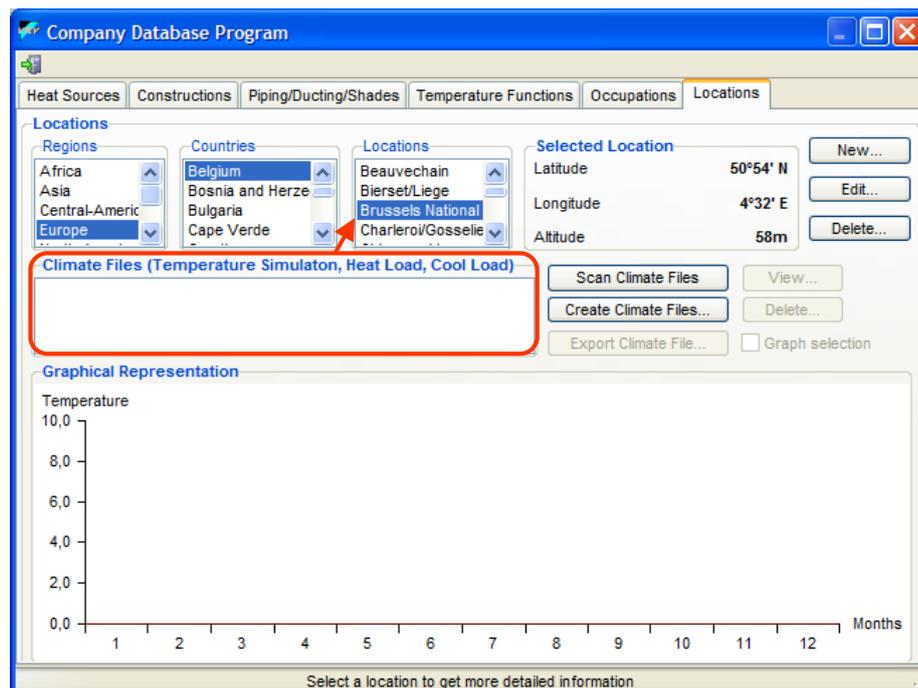
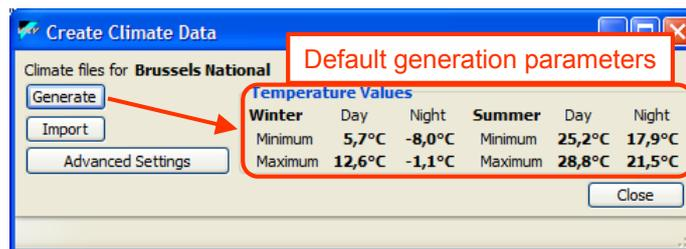
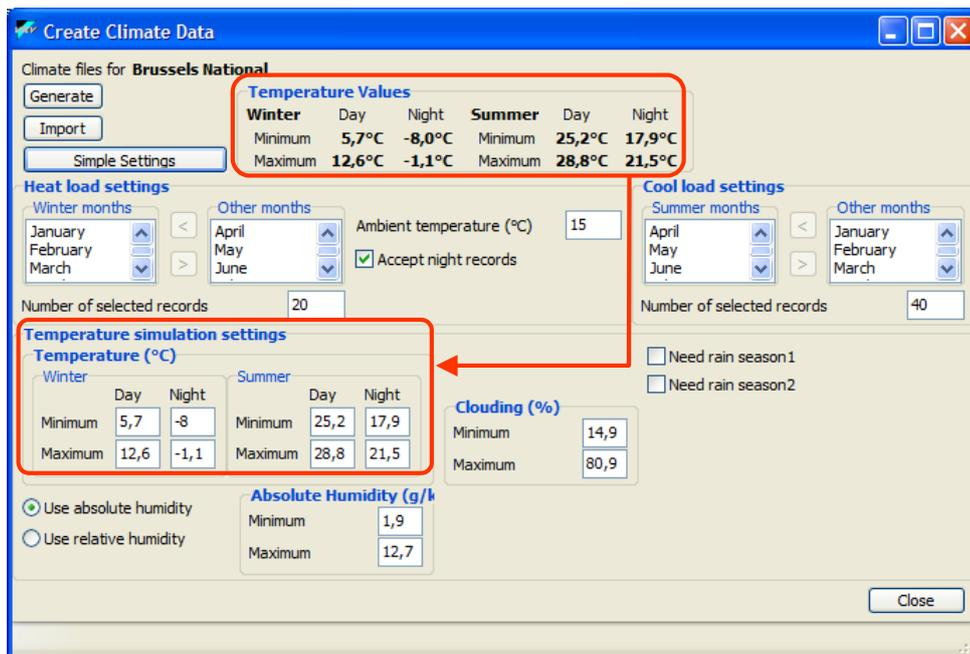

Figure 150: Climate files are associated to a location
Figure 151: Default generation parameters associated to a location
Figure 153: Advanced generation parameters and load derivation settings
Climate files are referred to in the company database and associated to a location. Locations are organized in regions (continents), countries and locations (see Figure 150):
When you start a new VRVPro project and select the default company database (see section 2.1) The default company database does not contain references to climate files. However, you may have created climate files in previous projects. To load these in the new project, click the "*Scan Climate Files*" command button (see Figure 150). VRVPro will then scan the "*Climates*" subfolder and store references to all climate files it finds in that subfolder.
However, for that new project you may need climate files for a different location, for which there are no climate files available. In that case, you must create them, by clicking the "*Create Climate Files*" command button (see Figure 150). This brings up a window as shown in Figure 151:
1. Generating a temperature simulation file. To generate climate data for a whole year, VRVPro uses 8 extreme temperature data, together with other data such as humidity and clouding, not shown in the simple window of Figure 151. After have produced the 8760 records, VRVPro saves the results in the temperature simulation file.
Instead of using the defaults to create the climate files, you can also click the "**Advanced Settings**" command button in Figure 151 to display a window as shown in Figure 153. This window allows you editing the extreme ambient temperature data, but also the humidity and clouding. In addition, you can also define rain seasons (e.g. a monsoon period), during which the humidity and clouding gets an extra boost.
The heat and cool load settings in the middle of the window in Figure 153 define the months to look up, as the coldest hours to use for heating are in the winter and the hottest in the summer. You can also select the total number of records required for a cool load and for a heat load. For the heat load settings, you can also enter a maximum ambient temperature. VRVPro will not consider records with ambient temperature values higher than the given one, when deriving a heat load calculation file.